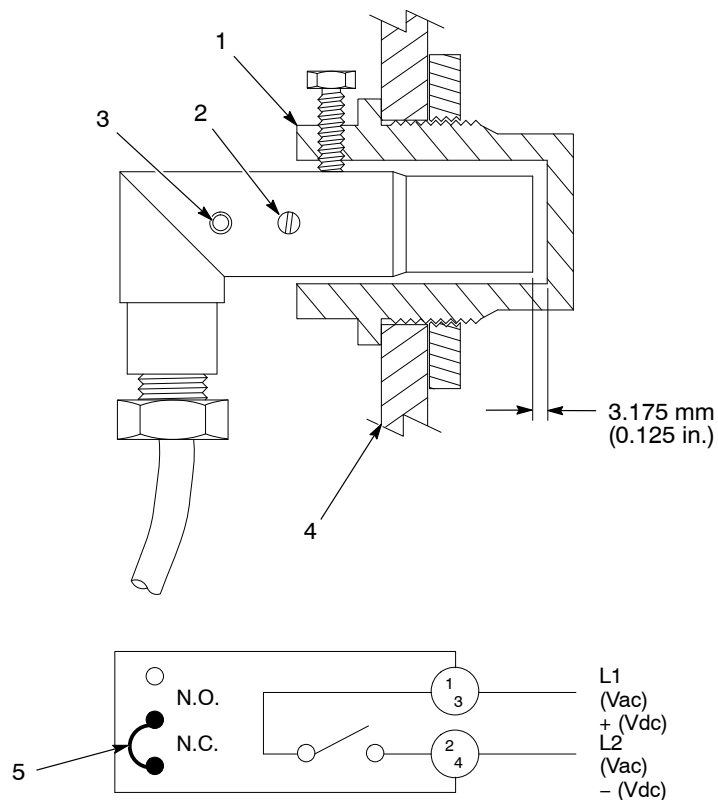

Figure 3-5 Feed Hopper Level Sensor Calibration
1. See Figure 3-5. Insert the level sensor into the plastic mounting well (1) in the side of the feed hopper until it bottoms out, then tighten the plastic screws on the side of the well to hold the sensor securely.
6. If the sensor LED (3) is on, slowly turn the sensor potentiometer (2) clockwise until it goes off. If the LED is off, slowly turn the potentiometer counterclockwise until it lights, then clockwise until it goes off.